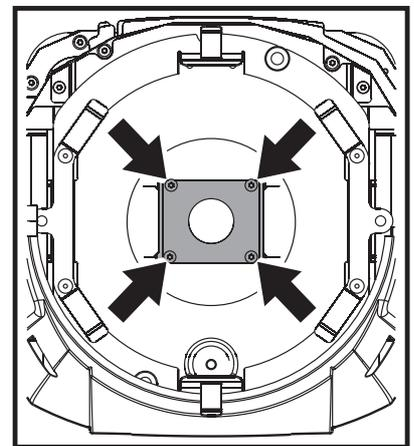

Figure 4
6. See Figure 4. Remove the four screws (arrowed) that hold the aperture plate in place inside the front of the head. See Figure 5. Remove the aperture plate and install the new aperture plate with shield plate (P/N 23819530) supplied in the Kit in its place, re-using the original four screws. The shield plate in the aperture plate must face downwards as illustrated to protect the wiring in the head from sunlight that might be focussed into the head by the new front lens assembly.